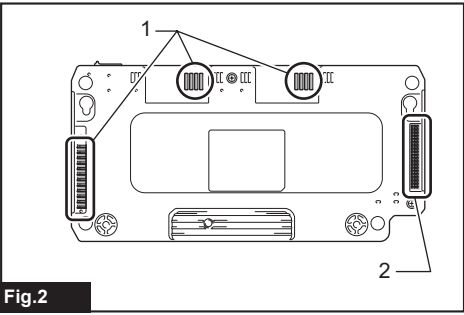

Fig.2
► **Fig.2:** 1. Exhaust vent 2. Intake vent